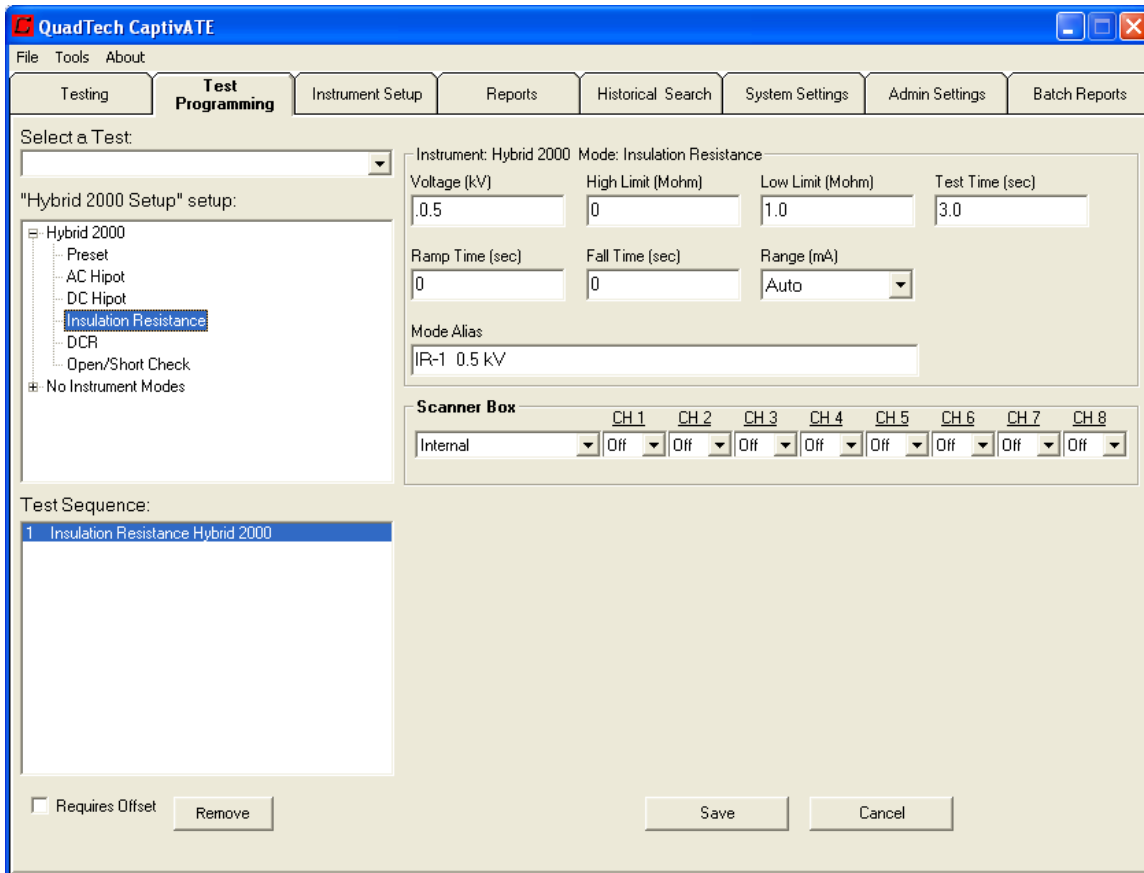

Figure 38 Test Programming: Insulation Resistance as First Step
1. Click the Hybrid 2000 “+” to show the modes, as in Figure 38.
2. Click the Insulation Resistance mode. The text boxes are displayed as in Figure 38.